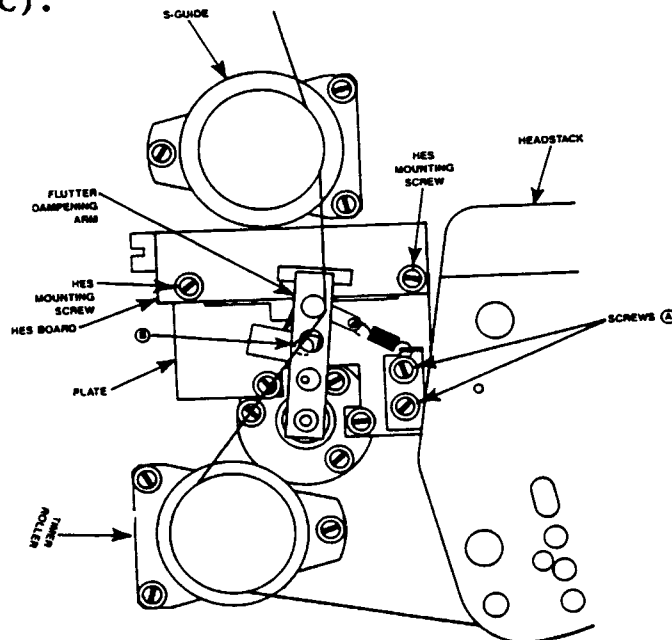

Figure 6-16. Flutter Dampening Arm Assembly
- STEP 6** If the voltage values read in STEPS 4 and 5 are not within specification ($\pm 0.25\text{vDC}$), this indicates that the hall effect sensor must be repositioned in the travel path of the magnet. This repositioning is accomplished by loosening the two securing screws on the HES board, and physically moving the HES board. Refer to Figure 6-16. Repeat STEPS 4 and 5 to check the readings at TPA and TPB.
- STEP 9** Place the machine into PLAY mode and ensure that the flutter dampener arm "rides" in the center of the end-to-end travel. If the flutter dampener arm does not meet this specification, loosen the screws (A) and adjust the spring tension. Refer to Figure 6-16.